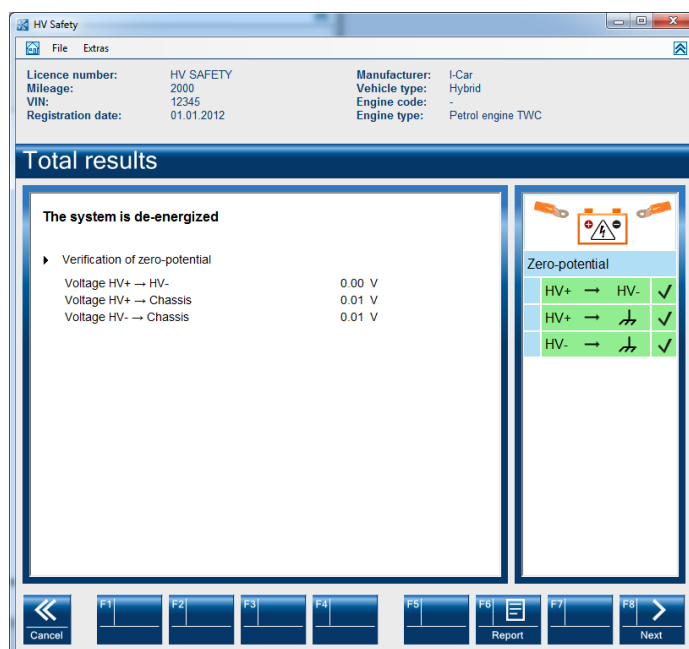

Fig. 3-2
6. The result of the measurement is displayed, see Fig. 3-2.